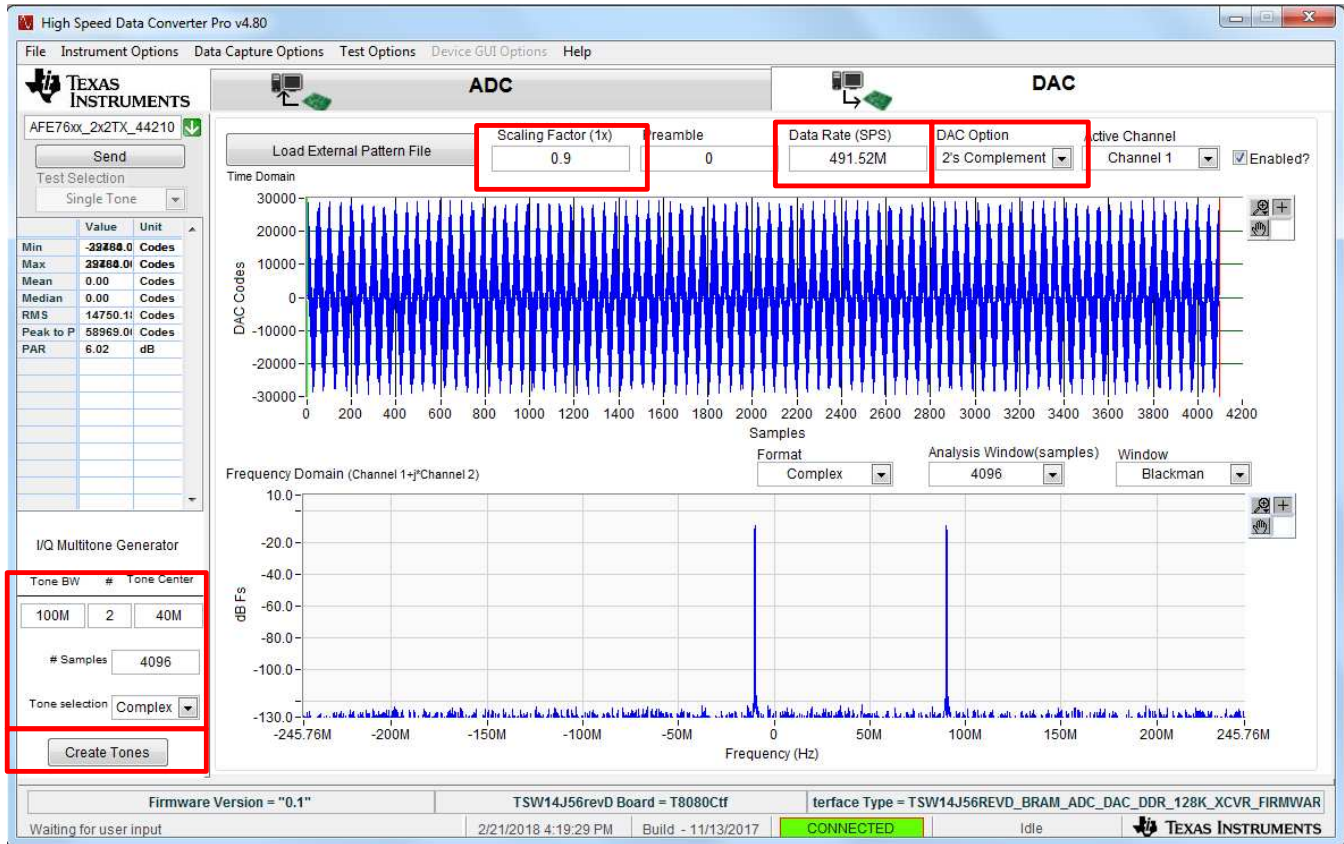

Figure 5. HSDC Pro DAC Tone Setup
5. Set up HSDC Pro as follows to generate the two tone signal (see Figure 5). Any waveform file accepted by HSDC Pro can be loaded at this point. Enter the proper scaling factor (1x), data rate (SPS), and DAC option in the main DAC tab to ensure a proper baseband processing setup. Enter the Tone BW, #, Tone Center, and Tone Selection in the I/Q Multitone Generator for proper tone generation.